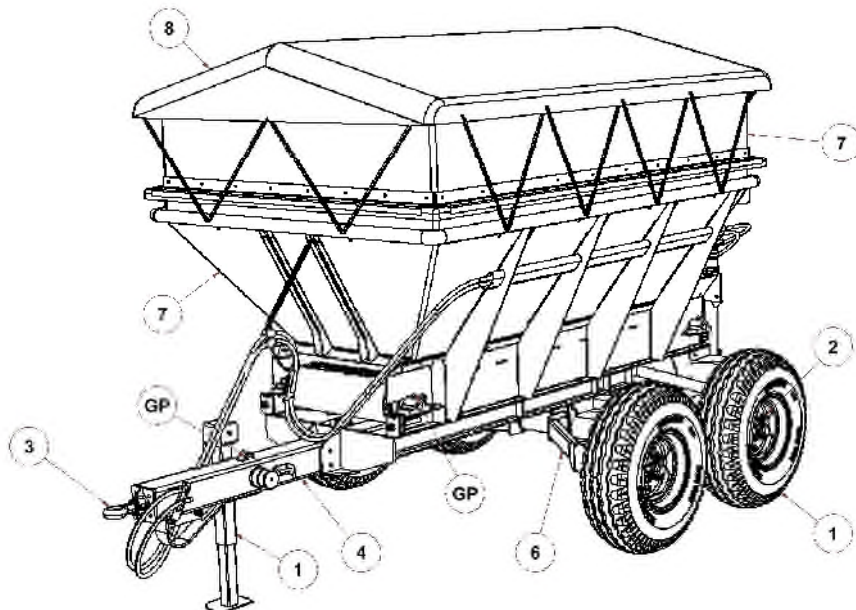

Figure 2 - Pre Start
4. Check the tyres for signs of wear, cuts and impact damage (1). Check the tyre pressure (Fig 2).
5. Check the torque on all wheel nuts (2) (Fig 2).
7. Check the condition of the towing eye (3), tow-bar frame (4), machine chassis (5), axle (6), bin (7) and cover (8) for damage and wear (Fig 2).
8. Check the jack (9) is fully raised when the spreader is connected to the tractor (Fig 2).